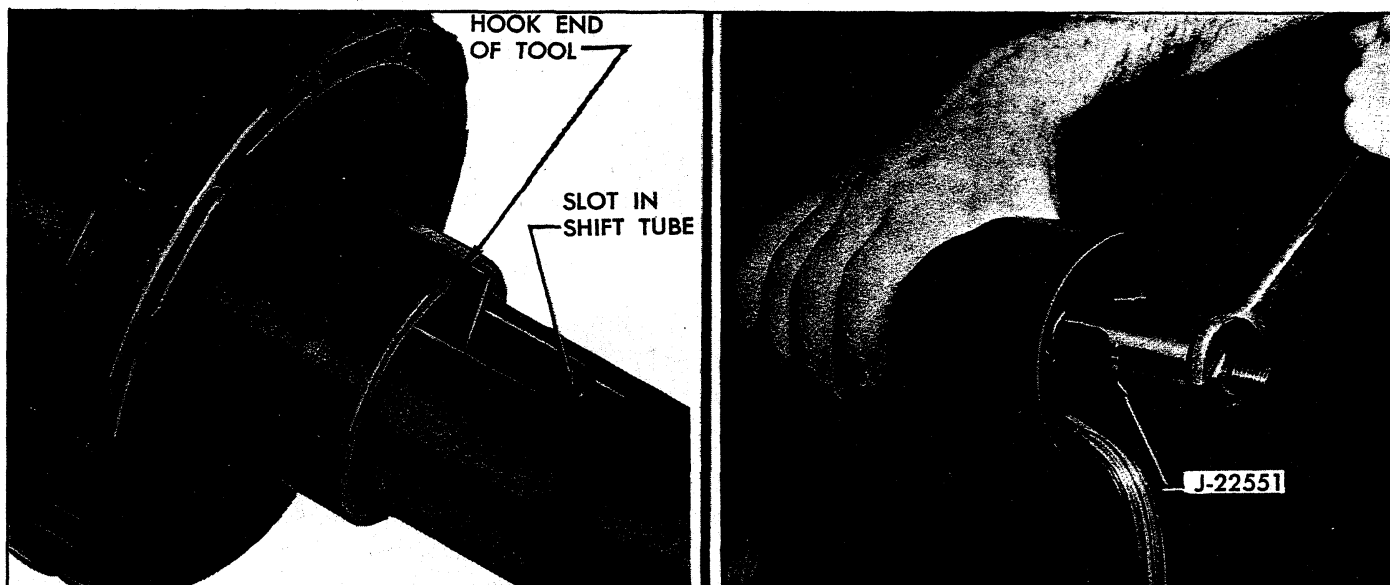

Fig. 43—Removing Shift Tube Using Shift Tube Remover J-22551
22. Remove shift tube assembly from bowl using shift tube remover Tool J-22551 (fig. 43). Insert the hooked end of the tool into the notch of the shift tube below the bowl key. Pilot sleeve into upper end of shift tube. Force shift tube out of bowl by turning